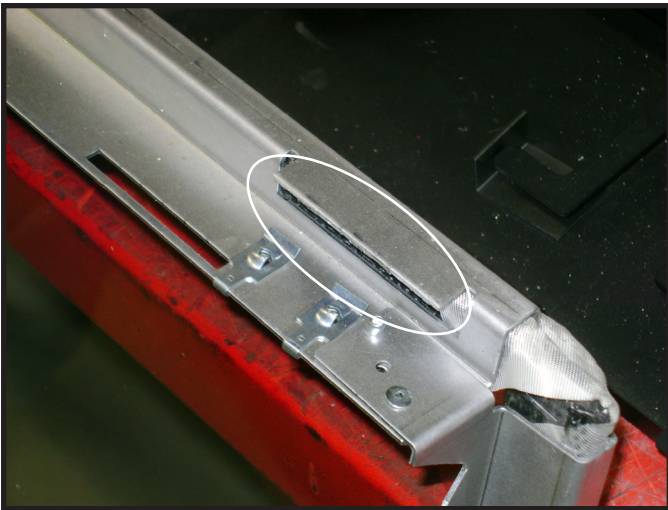

Figure 11.1 Glass Top Tab Detail.
1. Identify the top and bottom of the glass assembly. The top of the glass frame has three engagement grooves. The engagement groove is highlighted in Figure 11.1.
2. Install the two accent lights by either removing the two screws that hold the light housing to the firebox bottom as shown in Figure 11.13 or, for easy access, remove the two screws from the light housing cover. See Figure 11.1. Install bulb by inserting the 2 pins on the bulb base into the 2 holes in the socket. See Figure 11.12 or Figure 11.13.